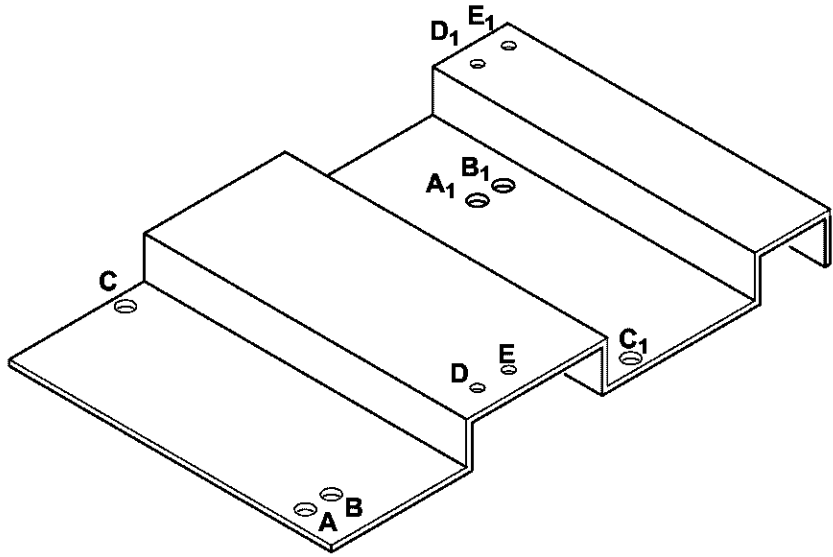

FIGURE 4
- 5 - Use two provided #8 - 16 X 1/2" screws to secure the provided control bracket to the existing stand-off bracket. Position the replacement ignition control on the right side of the vestibule panel with the terminal pointing toward the left, so that the wiring connections can be made. Use two #8 - 16 X 1/2" screws (provided) to secure the ignition control to the control bracket. See figure 4 for the correct mounting holes to use.
- 4 - Use a 1/4" nut driver to remove the two #8-32 screws that secure the existing ignition control to the unit. Use two of the provided #8 - 16 X 1/2" screws to install the provided control bracket in the unit. See figure 4 for the correct mounting holes to use.